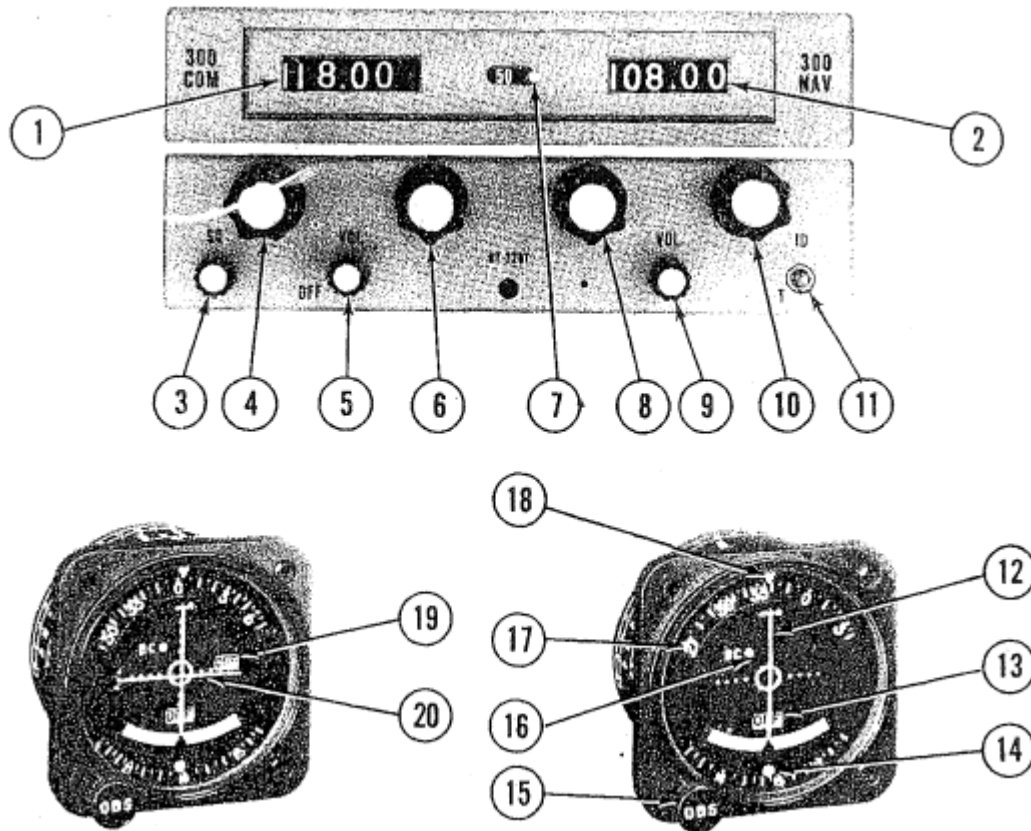

Figure 1. Cessna 300 Nav/Com (Type RT-328T)
The Cessna 300 Nav/Com (Type RT-328T), shown in Figure 1, consists of a panel-mounted receiver-transmitter and a single- or dual-pointer remote course deviation indicator (CDI). The set includes a 720-channel VHF communication receiver-transmitter and a 200-channel VHF navigation receiver, both of which may be operated simultaneously.
All controls of the Cessna 300 Nav/Com, except the omni bearing selector knob (OBS), which is located on the course indicator, are mounted on the front panel of the receiver-transmitter. The course indicator includes either a single pointer and related OFF flag for VOR/LOC indication only, or dual pointers and related OFF flags for both VOR/LOC and glide slope indications. The course indicator also incorporates a back-course lamp (BC) which lights when optional back-course operation is selected. Each control function is described in Figure 1, and the audio control panel supplied with this equipment is shown and described in Section 7 of this handbook.
The third decimal-place digit is not shown on the receiver-transmitter frequency readout. As shown in Figure 1, selected Com frequency is 118.000 MHz. With the switch in the other position, 118.02 is 118.025 MHz or 118.07 is 118.075 MHz.